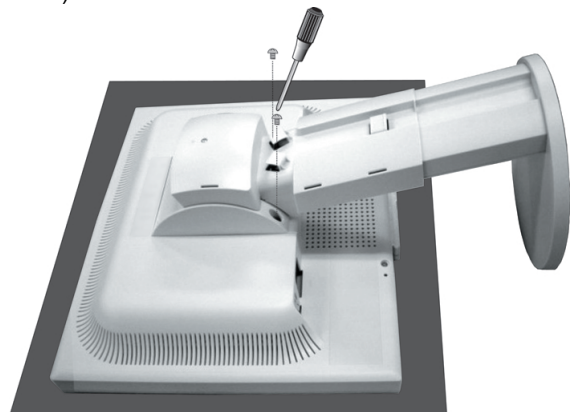

Figure S.2
3. Place monitor face down on a non-abrasive surface (**Figure S.2**).
4. Remove the 2 screws connecting the stand to the monitor (**Figure S.2**).